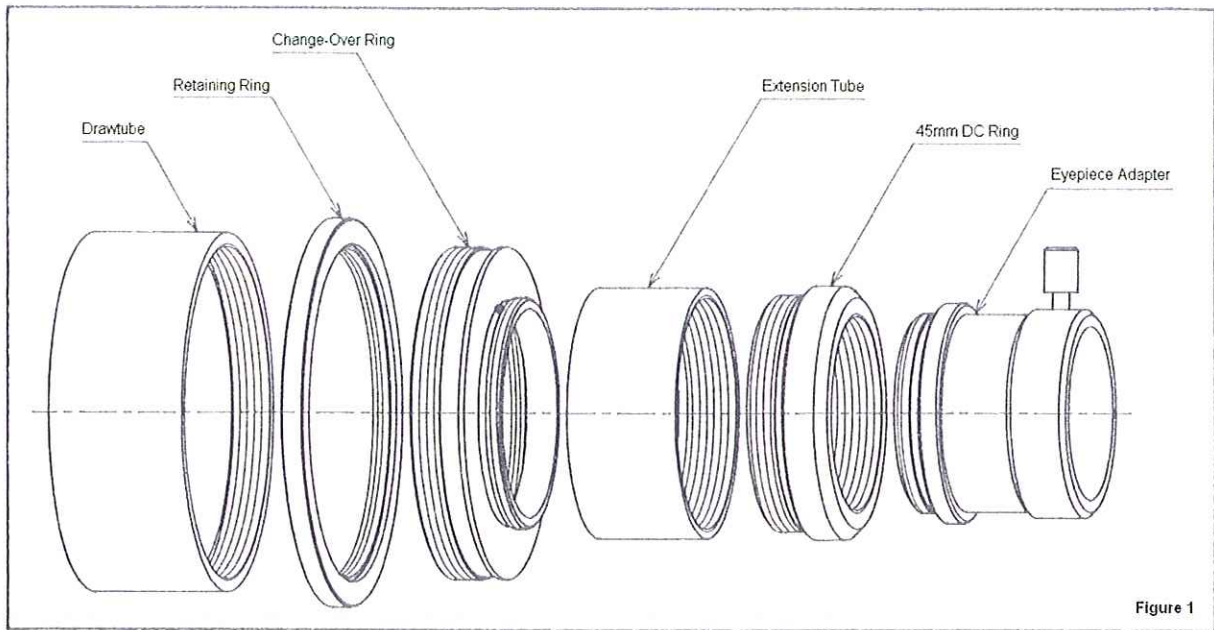

Figure 1
4. Draw a circle with diameter of 55mm on a black paper to make a disc. Open a pin hole of about 1mm to 2mm at the center of the disc. Cut out of the disc and place it into the change-over ring shown in the Figure 1.